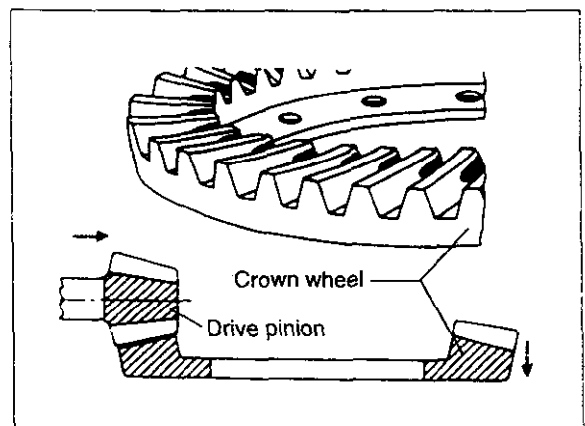

Fig. 2-369
- b. Adjusting contact condition at the toe (Fig. 2-369).